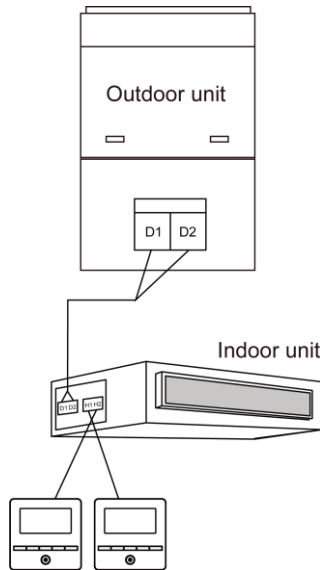

Fig. 3.5 Two wired controllers control one indoor unit
(3) When two wired controllers control multiple indoor units, wired controller can be connected to any one indoor unit, while the connected indoor unit should be the same series indoor unit. The addresses of those two wired controllers should be different. Please refer to 3.2.3 parameter setting. The total quantity of indoor unit controlled by wired controller can't be more than 16 sets and all connected indoor units must be within the same indoor unit network. Wire controller must set quantity of group control indoor units. Please refer to 3.2.3 Parameters Setting.
(4) When one (or two) wired controller(s) control(s) multiple indoor units at the same time, the controlled indoor unit's setting should be the same.
(5) Wiring of wired controller and indoor unit network must be according to one of the four wiring methods as shown in fig 3.4-3.7. As for the connection method shown in fig 3.5 and 3.7, there should be only one master wired controller (address is 01) and one slave wired controller (address 02). The quantity of wired controller can't exceed two.